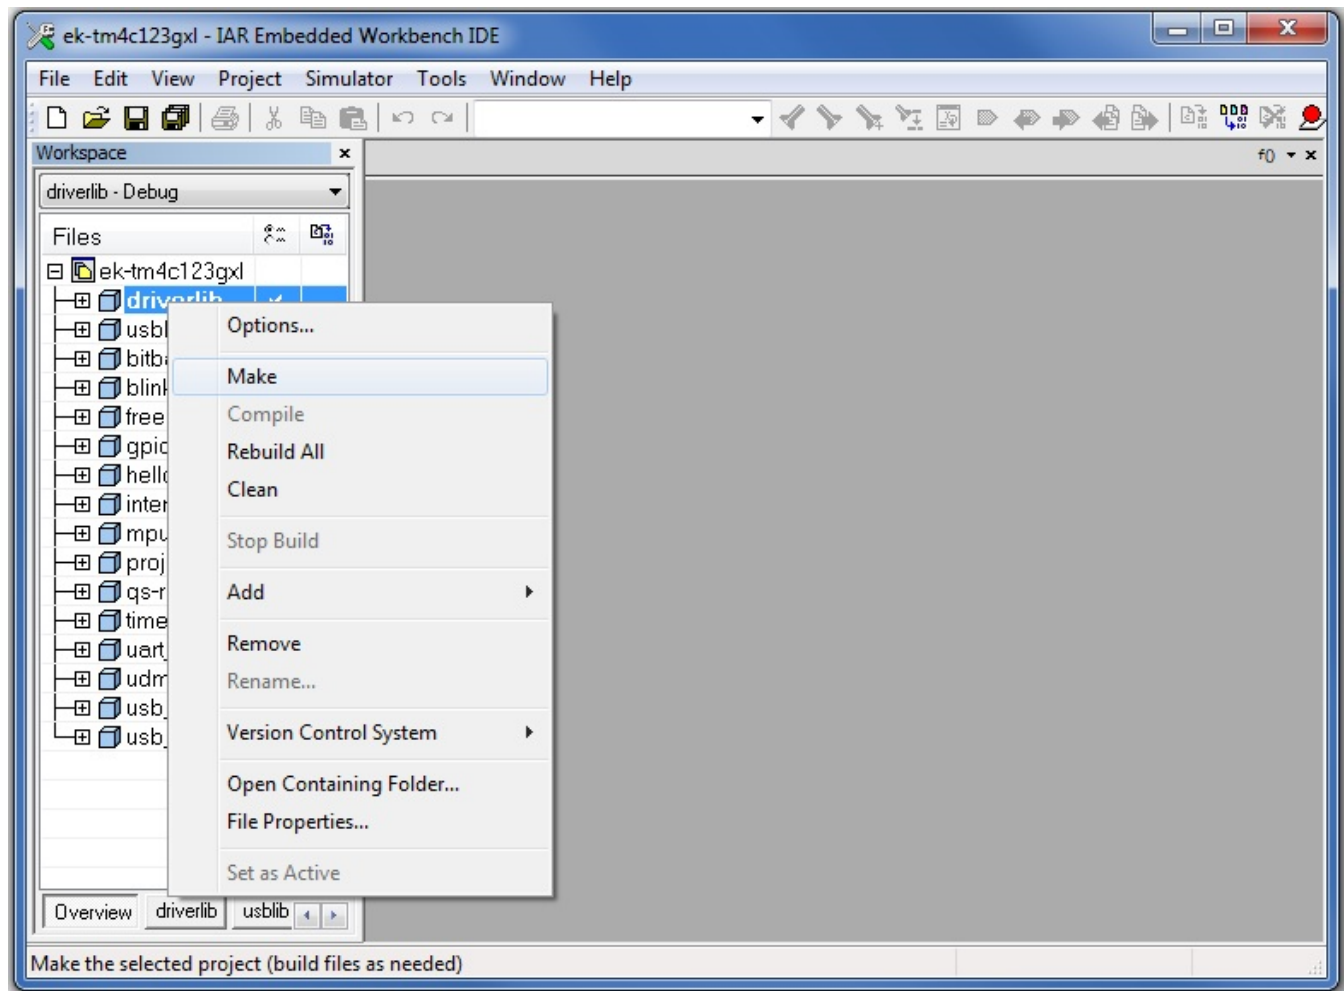

Figure 2.
- Right-click the driverlib project and select Make (see Figure 2).